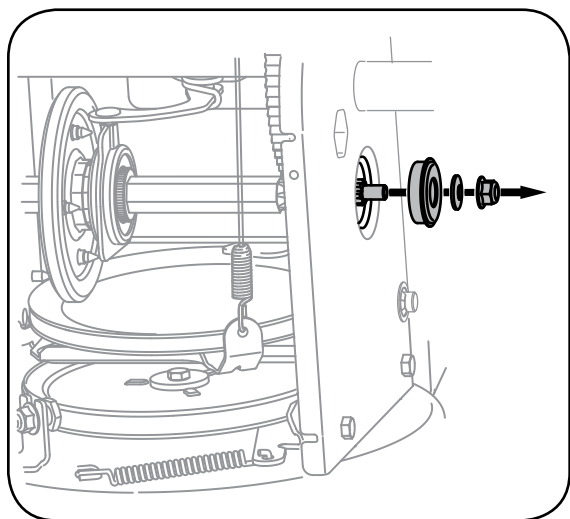

Figure 6-14
2. Carefully remove the hex nut and washer which secures the hex shaft to the snow thrower frame and lightly tap the shaft's end to dislodge the ball bearing from the right side of the frame, Figure 6-14.